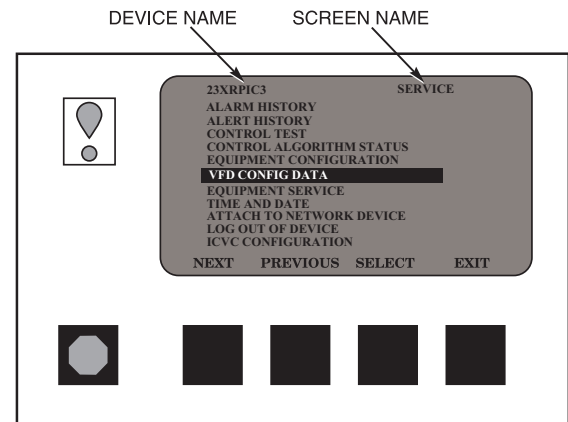

Fig. 16 — ICVC Service Screen
- If a screen other than the default screen is displayed on the ICVC, the name of that screen is in the upper right corner (Fig. 16).